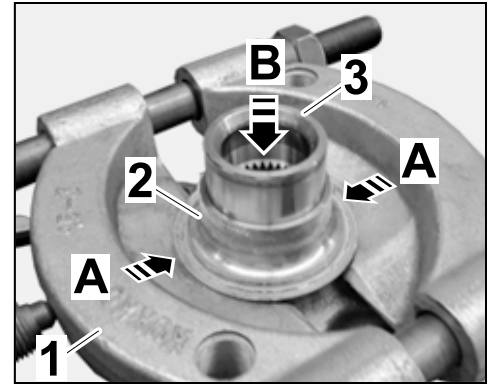

Figure 16
- 2.3.2 Press wheel bearing inner ring off the wheel hub shaft (at the left/right) (⇒ Figure 16).